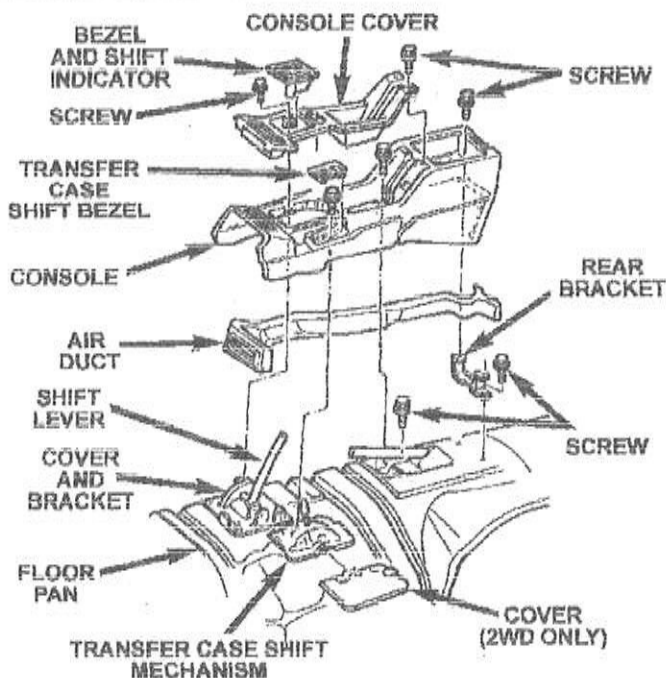

Figure 19
2. Pry up the transmission shift indicator bezel with a trim stick (Figure 19).
4. Pry up the transfer case shift indicator bezel with a trim stick (if equipped) (Figure 19).
7. **For vehicles with a full console:** Remove the console cover attaching screws and then remove the console cover (Figure 19).
8. Remove the console attaching screws and then remove the console (Figure 19).
9. Remove the console air duct (if equipped) (Figure 19).
41. Install the console air duct and then install the console and secure it with the attaching screws (Figure 19).
42. Install the console cover (if equipped) and secure it with the attaching screws (Figure 19) and then install the power mirror switch (if equipped).
43. Install the lamp socket into the transfer case shift bezel and then install the bezel into the console (if equipped) (Figure 19).
44. Install the lamp socket into the transmission shift indicator bezel and then install the bezel into the console (Figure 19).